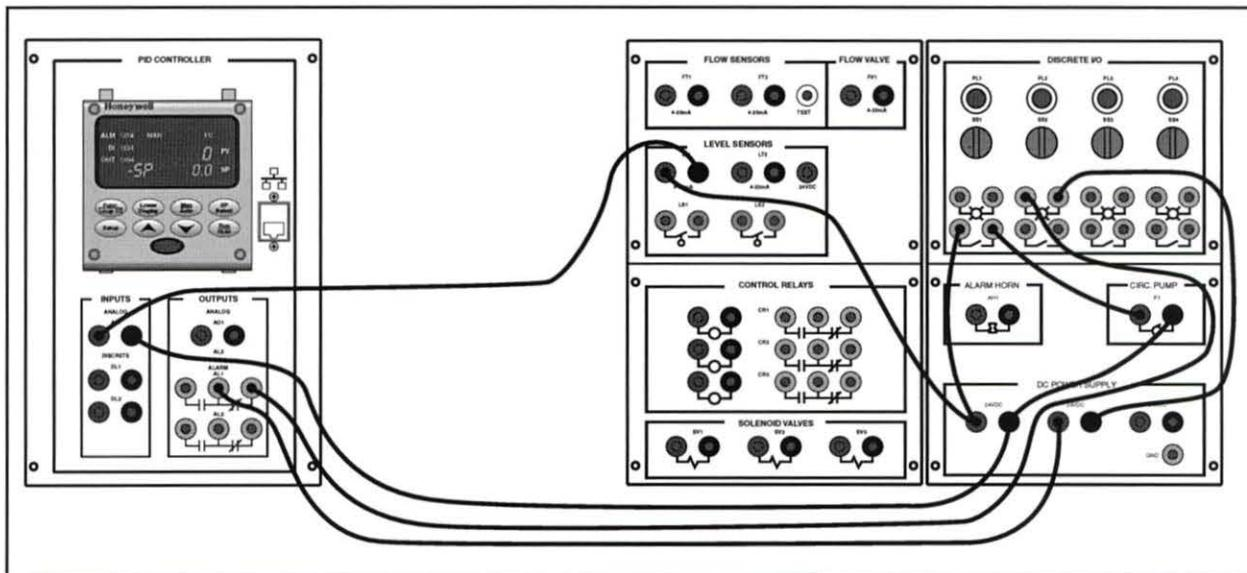

Figure 61. Level Circuit Using Controller Alarm Relays
F. Connect the circuit shown in figure 61.